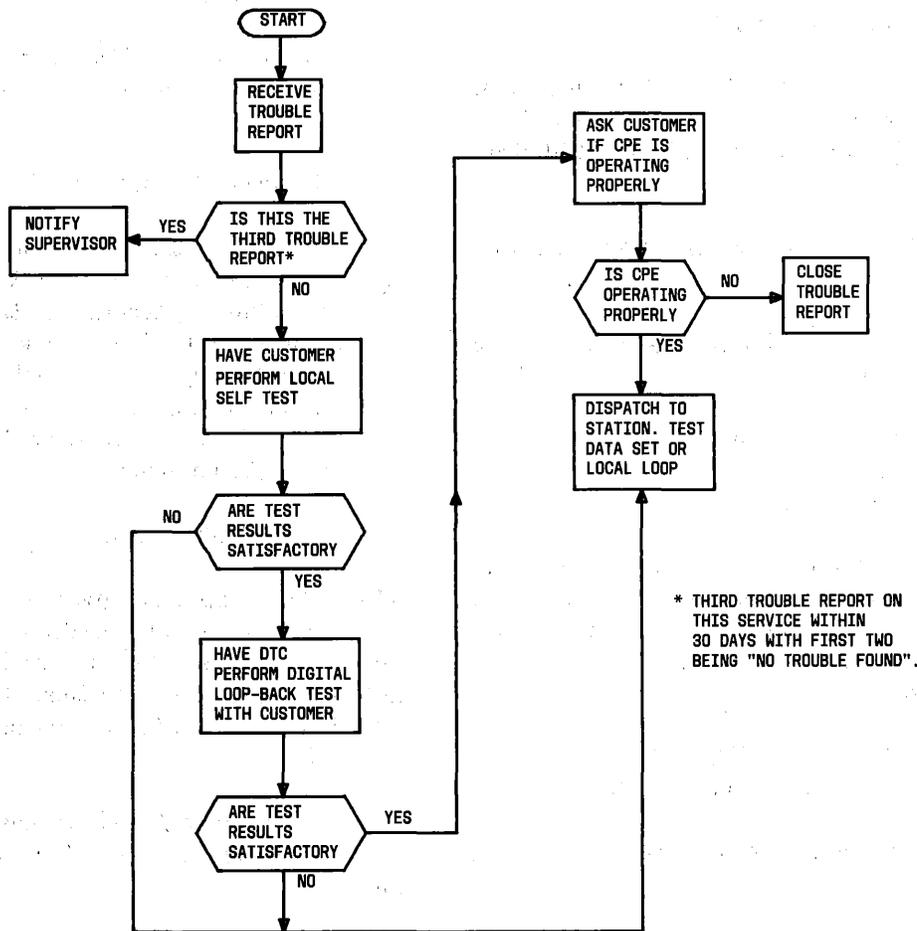

Fig. 6—Maintenance Test Sequence—DS 103J
4.01 The procedure given in Fig. 6 should be used as an aid in sectionalizing trouble. This information, usually provided to the DTC, is included here for use by those locations where the trouble is reported to and investigated by the local repair force.